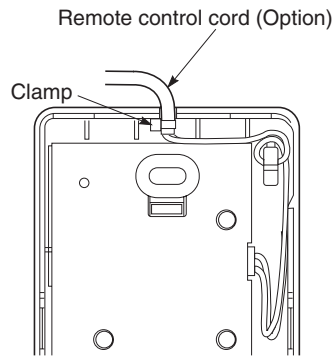

Fig. 1-232
- (5) After arranging the wiring on the printed circuit board as shown in Fig. 1-232 so that it is contained within the signal receiving unit, attach the back case. At this time, arrange so that the head of the clamp faces the side.
- (6) Remove the cover plate and install the signal receiving unit using the 2 wood screws.
- (7) Fasten to the wall using the cord clip (supplied).
- (8) Reinstall the cover plate.